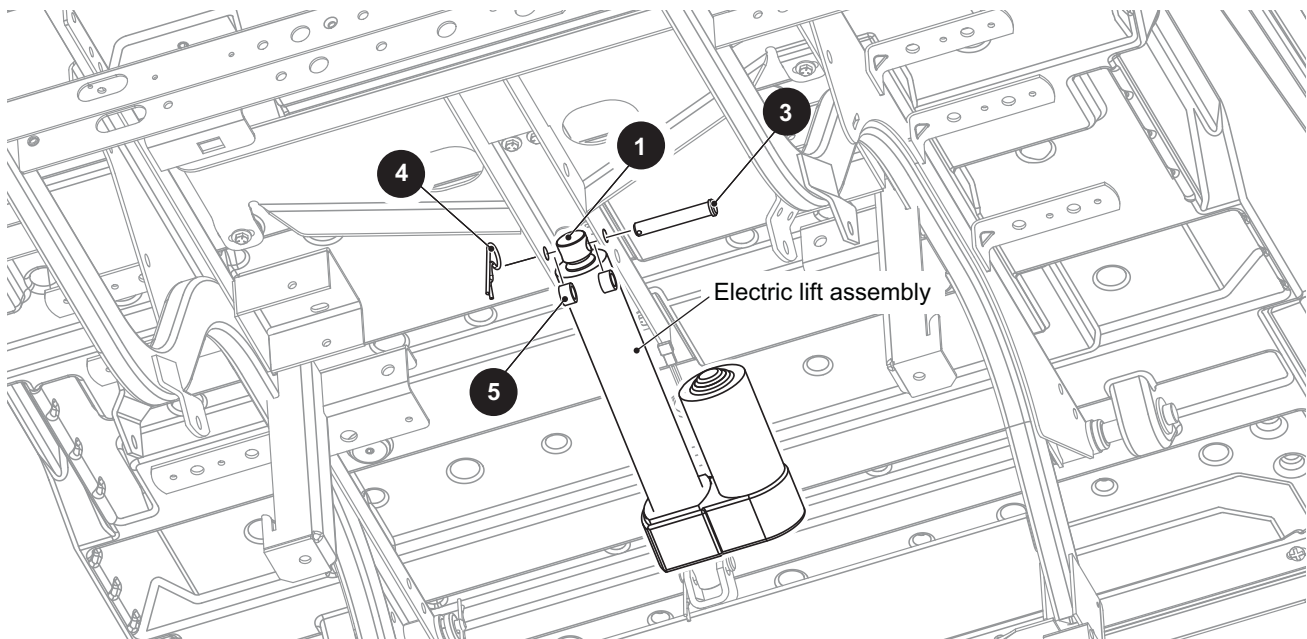
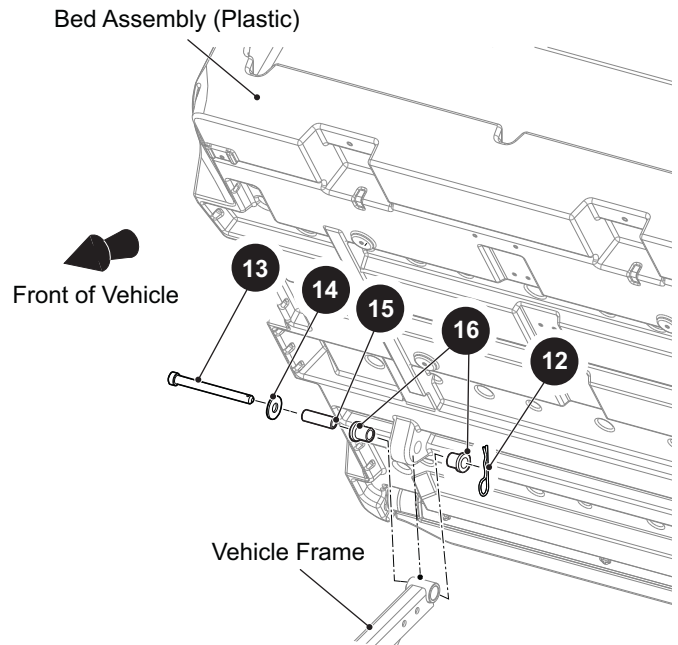
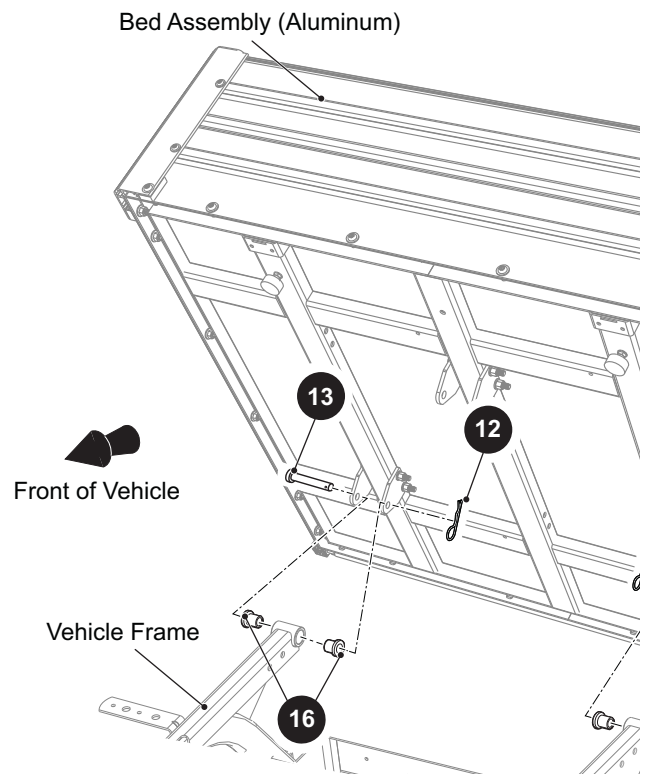

Figure 2 Truck Bed Replacement (Optional Electric Lift)
Figure 3 Truck Bed Assembly (Plastic)
Figure 4 Truck Bed Assembly (Aluminum)
2. With a person on each side of the bed, remove the cotter pin (3) and clevis pin (4) that connect the gas spring (1) to the truck bed (Figure 1). If the optional electric lift is installed, remove and retain spacers (5) (Figure 2).
3. Rotate the gas spring (1) and bed tether cable (2) down to sit on the bracket. Lower the truck bed.
4. Remove the cotter pins (12) and clevis pins (13) from both sides of the truck bed (Figure 3) (Figure 4).
5. If the vehicle is equipped with the standard plastic bed, retain the flat washers (14), spacers (15) and pivot bushings (16) (Figure 3).
6. If the vehicle is equipped with the aluminum bed, retain the pivot bushings (16) (Figure 4).